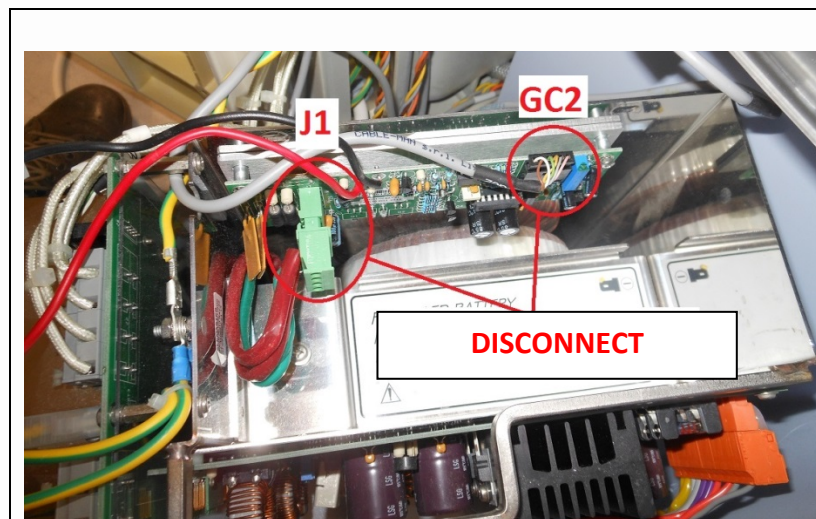

Fig. 12
14. If not already performed, disconnect J1 and GC2 from charge board (**Fig. 12**).